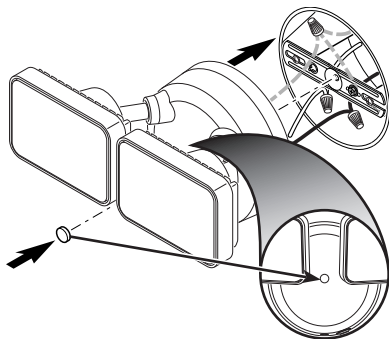

Figure 3
3. Tighten the mounting bolt securely being careful not to overtighten (see Figure 3).
4. Push the rubber plug firmly into the mounting bolt hole on the light fixture (see Figure 3).